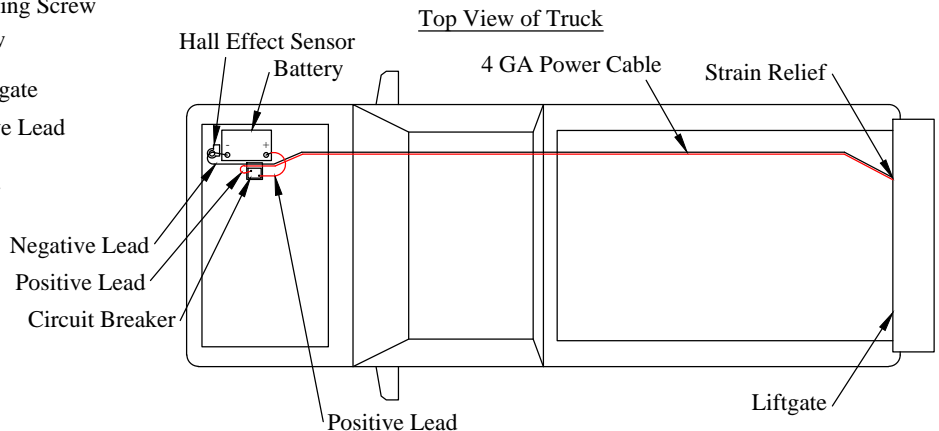

Figure 16: Electrical routing.
3. **Loosen** the strain relief on the back of the liftgate mainframe (Figure 16).
4. **Pull** the power cable (coiled up in the liftgate mainframe) carefully through the strain relief. Leave approximately two (2) inches of slack inside the liftgate mainframe (Figure 16).
6. **Route** the power cables along the frame (Figure 16) to the battery following the *Tommy Gate Recommended Electrical Wiring Guidelines*.